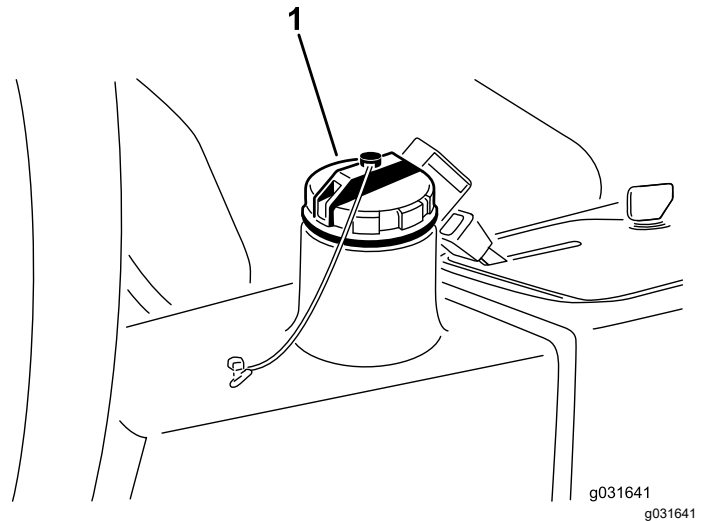

**Figure 64**
2. Disconnect the hydraulic line or remove the hydraulic filter and let the hydraulic fluid flow into a drain pan (Figure 66 and Figure 64).
3. Install the hydraulic line when the hydraulic fluid stops draining (Figure 64).